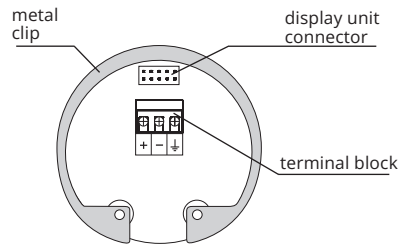

Fig. 14: Inside view of screw terminals of the level meter with current output ARLM-70_--I
5. Connect the cable to the screw terminals according to the diagram in Fig. 14. Firmly tighten the terminals and the cable outlet.
In the event of strong ambient electromagnetic interference, paralleling of conductors with power distribution, or for distribution to distances over 30 m, we recommend grounding the level meter (see above) and using a shielded cable. Ground the shielding of the cable on the side of the power supply, or the shielding is possible to connect only on inside pin of the level meter marked \perp see Fig. 14 (the shielding of the cable is always connected in a single location).